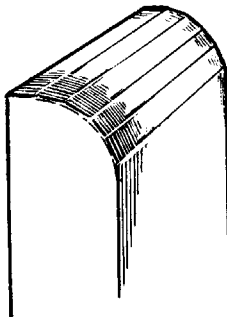

FIG. 6 ROUNDING A CORNER
10. When rounding a corner, clamp the work in the vise so that the layout line is above the vise jaws. Rough file to the line by filing across the piece. Reduce the corner with a series of angles until the desired radius is obtained. (Fig.6). Finish filing with a fine cut file by following along the "rounded surface".